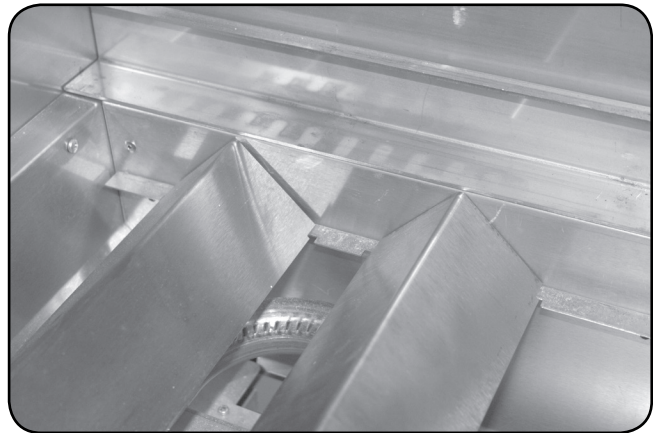

Fig. 8-1
1. Place the angled radiants as shown in Fig. 8-1.